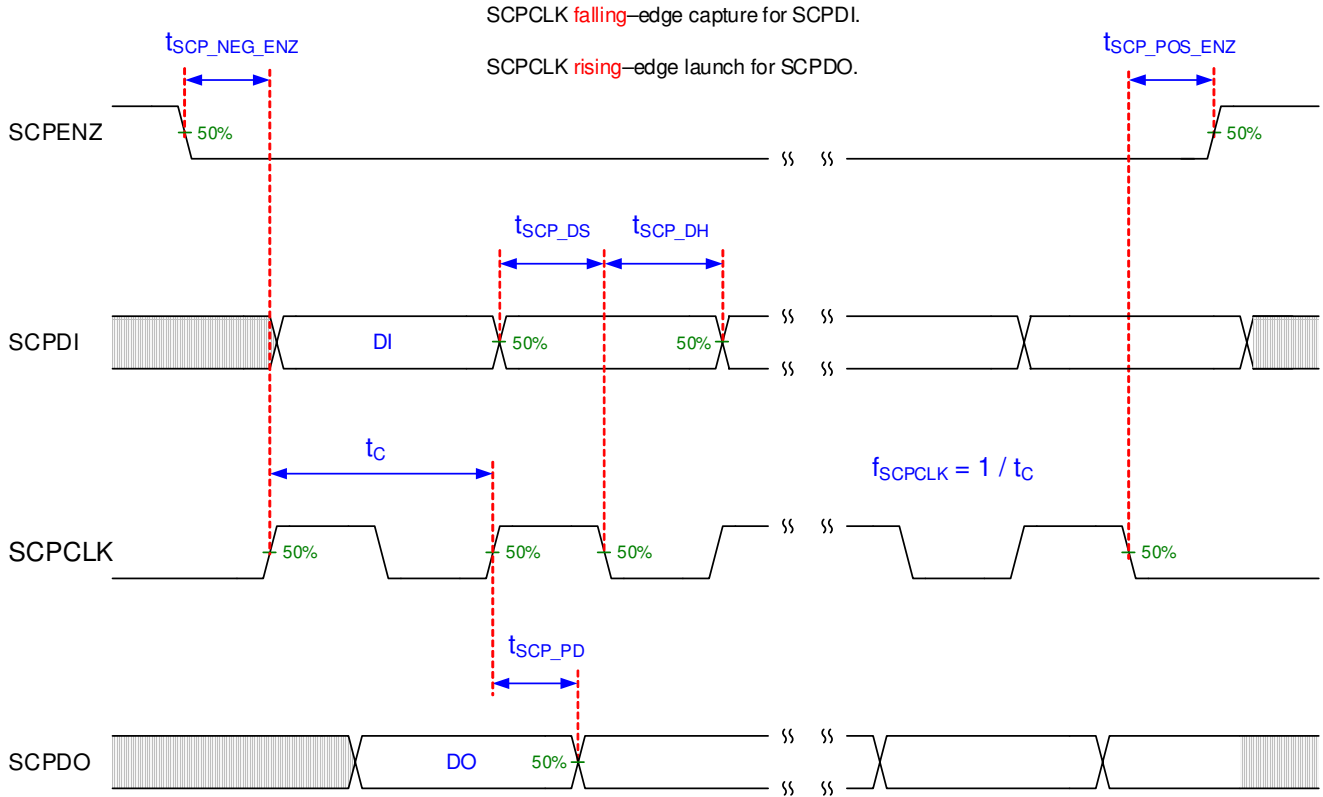

图 5-2. SCP Timing Requirements
- (5) Low-speed interface is LPSDR and adheres to the Electrical Characteristics and AC/DC Operating Conditions table in JEDEC Standard No. 209B, "Low-Power Double Data Rate (LPDDR)" JESD209B. Tester Conditions for VIH and VIL.
- (6) PWRDNZ input pin resets the SCP and disables the LVDS receivers. PWRDNZ input pin overrides SCPENZ input pin and tristates the SCPDO output pin.
- (7) The SCP clock is a gated clock. Duty cycle shall be 50%  $\pm$  10%. SCP parameter is related to the frequency of DCLK.
- (8) See 图 5-2